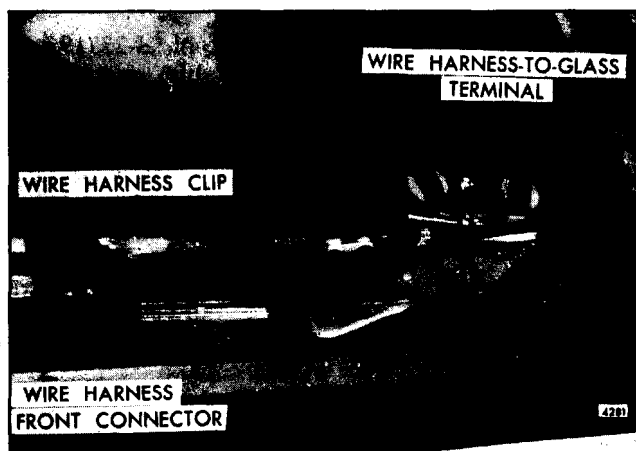

Fig. 9-17-Heated Window Rear Wire Harness - Window Up (Roof Outer Panel Removed for Illustrative Purposes)
- Disengage heated window rear harness at front junction and secure a 4 ft. cord to harness to facilitate installation (Fig. 9-17).